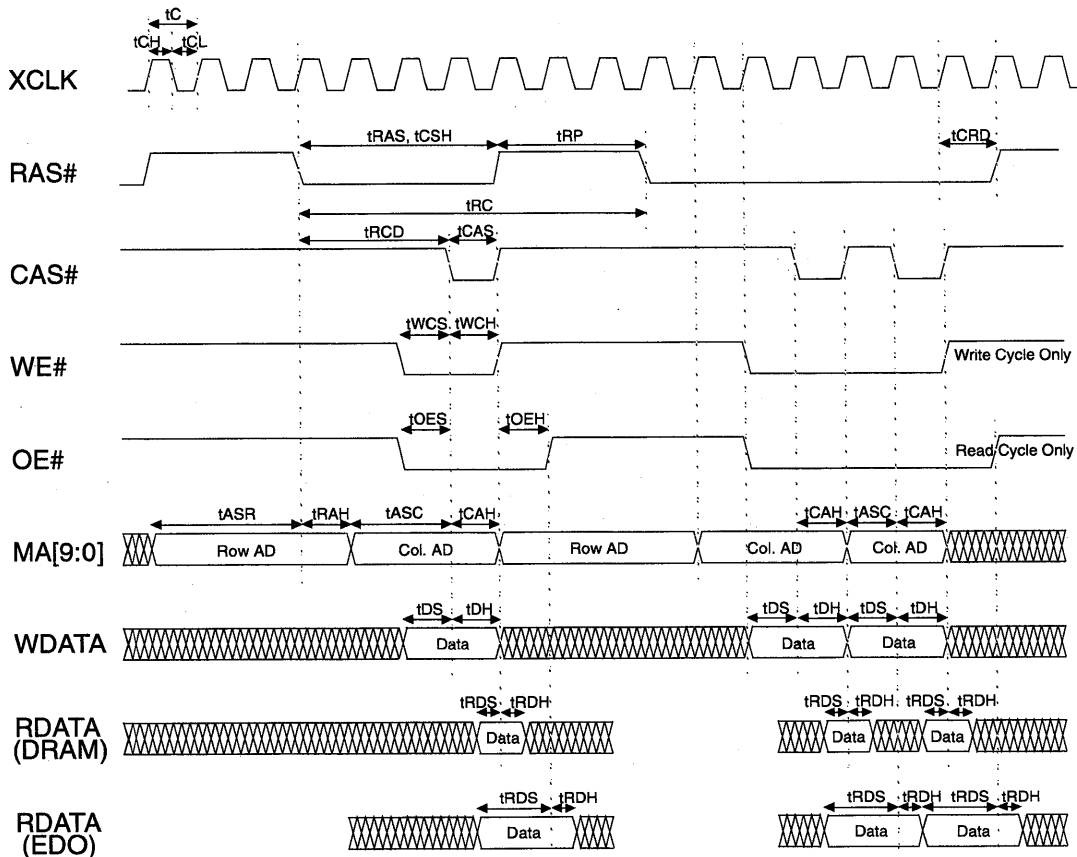

Figure 7-7. DRAM Cycle Timing
- DRAM / EDO DRAM Cycle Timing, see *Figure 7-7*.